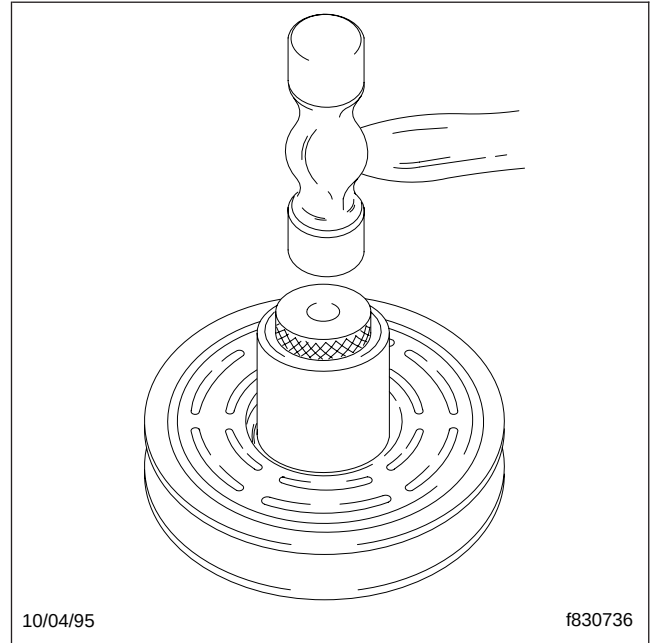

Fig. 8, Driving the Pulley Down Against the Front Housing Step
- 2.3 Place the driver into the ring. Using a hammer or arbor press, drive the pulley down against the front housing step. See Fig. 8.